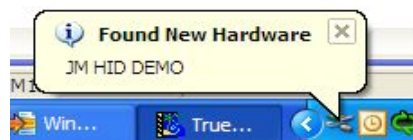

Figure B-2. Find New Hardware callout
1. Connect the hardware to the Windows host computer. As soon as you turn on the device, the HID device gets installed onto the Windows host computer. You must see the callout as shown in Figure B-2 on the right bottom corner of your screen. At this point, the windows installs the host driver for the device.